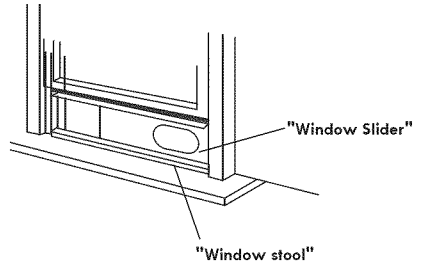

Fig.10
3. Cut another length of adhesive foam seal and attach it to the bottom of the window sash. Close the window sash securely onto the window slider (see Fig. 10).